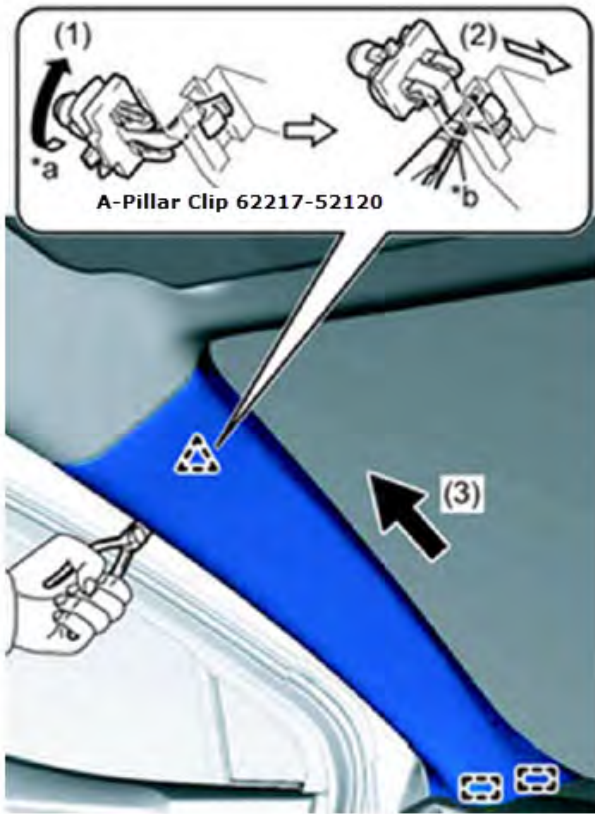

Figure 6
- Using needle-nose pliers with the tips wrapped with protective tape, rotate the front A-Pillar garnish clip 90° in the direction indicated by the arrow (1) shown in the illustration. Pull the front A-Pillar garnish LH in the direction indicated by the arrow (2) shown in the illustration to disengage it from the front A-Pillar garnish clip. Pull the front A-Pillar garnish LH in the direction indicated by the arrow (3) shown in the illustration to disengage the 2 guides to remove the front A-Pillar garnish LH. Remove the A-Pillar garnish clip from the A-Pillar. The clip CAN NOT be reused. DESTROY and DISPOSE of clip. See figure 6.